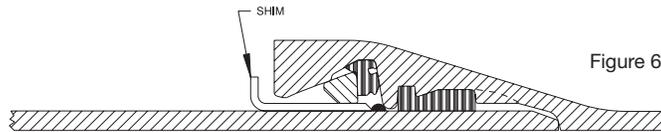

Figure 6
**5. Remove the starter wedges from between the locking segment and spigot, leaving the shim(s) in place.** (Fig. 6) Note that the wedges are reused for each locking segment.